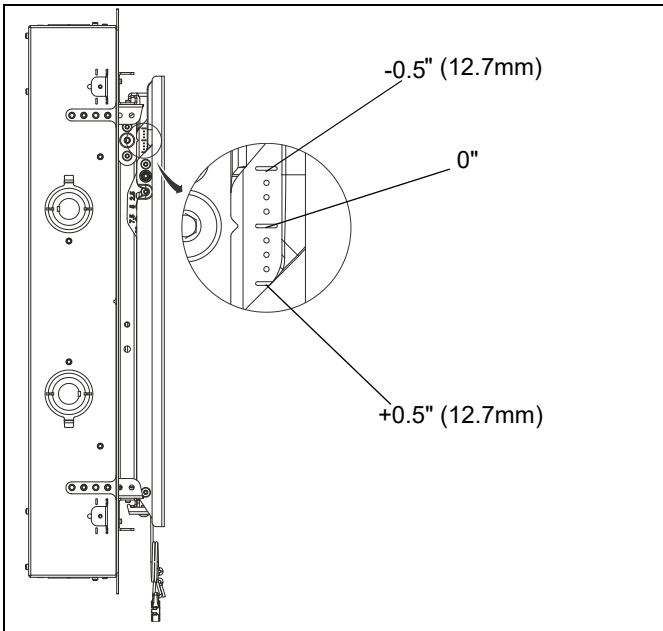

Figure 31
2. Refer to height adjustment markings on side of each interface bracket (A and B) to check adjusted height of each bracket. (See Figure 31)